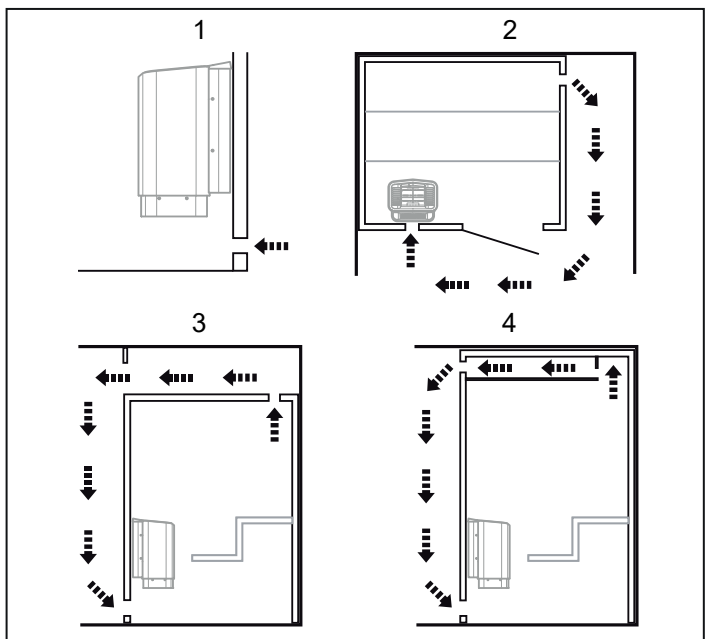

Figure 7: Positioning the air intake and exhaust vents
- at the maximum possible distance from the air intake vent, e.g. diagonally (see Figure 7).
- high on the wall or in the ceiling (see Figure 7).